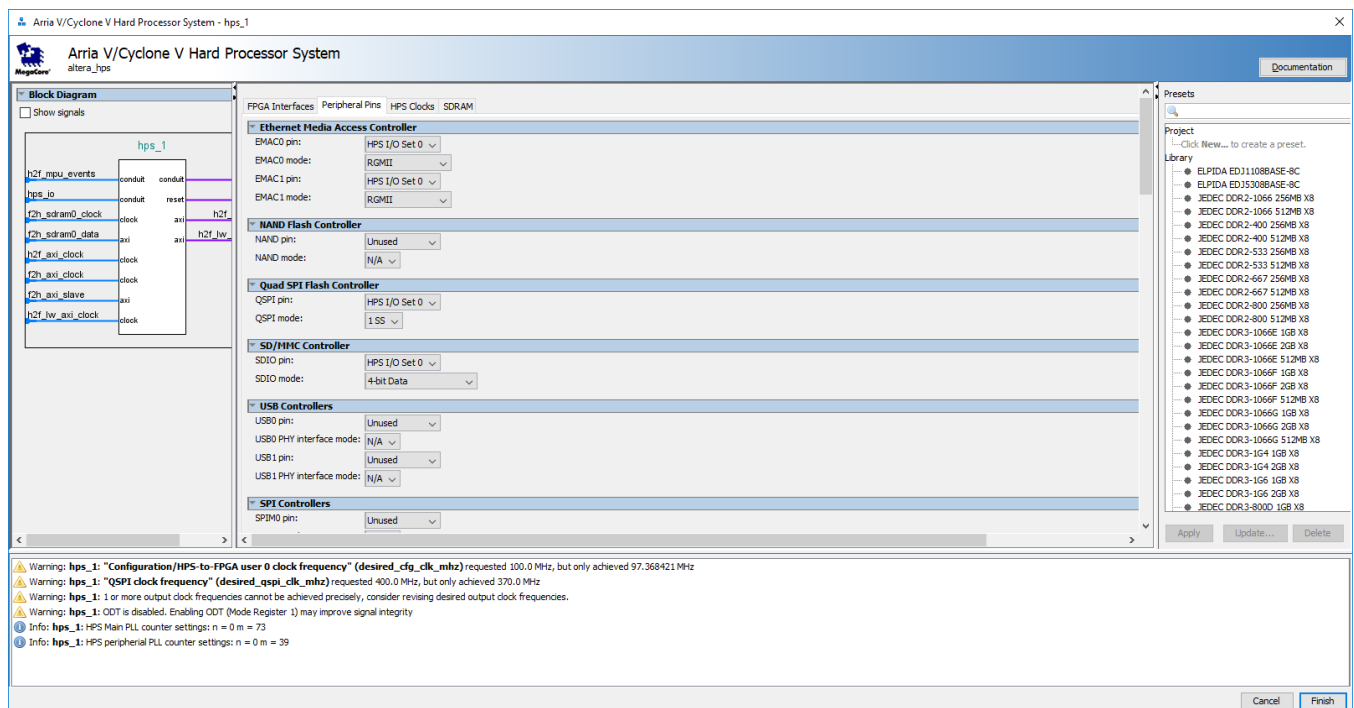

Figure 38 : Peripheral Pins of HPS
4. On Peripheral Pins tab, set the function pin and mode that is used in the design as shown in the Figure 38.